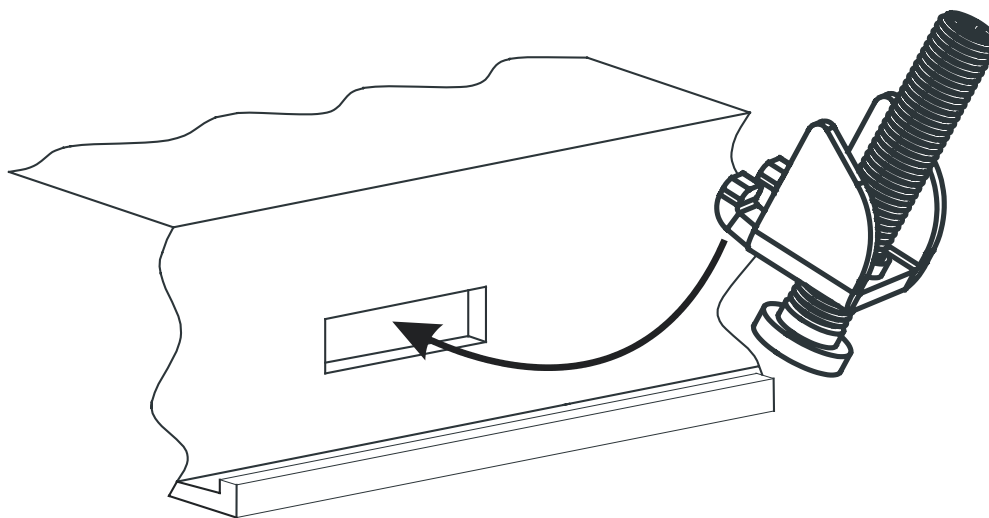

Fig. 8 HMI assembly
9. insert the 4 fixing screws in the appropriate seats as indicated in **Fig. 8 on page 25;**